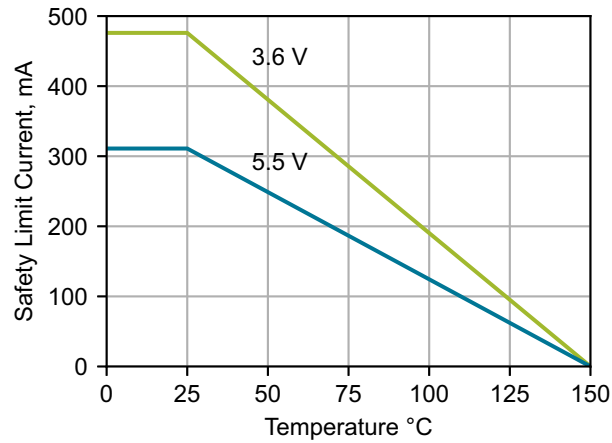

Figure 15. WB SOIC-16 Thermal Derating Curve (Dependence of Safety Limiting Current)
1. Maximum value allowed in the event of a failure. Refer to the thermal derating curve in Figure 15 below.